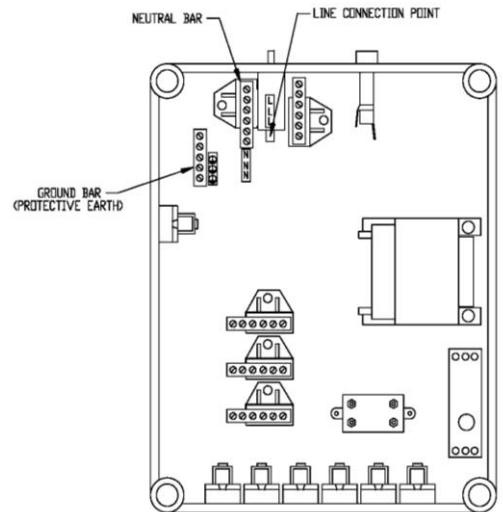

Fig. 10 Tub Electrical Box
1. Remove the cabinet's electrical box cover and locate the connecting points within the box. See **figure 10**.
3. Connect the power cord from the tub lift electrical box to the cabinet electrical box (**figure 10**). Black to line bar, white to neutral bar, green to ground bar.